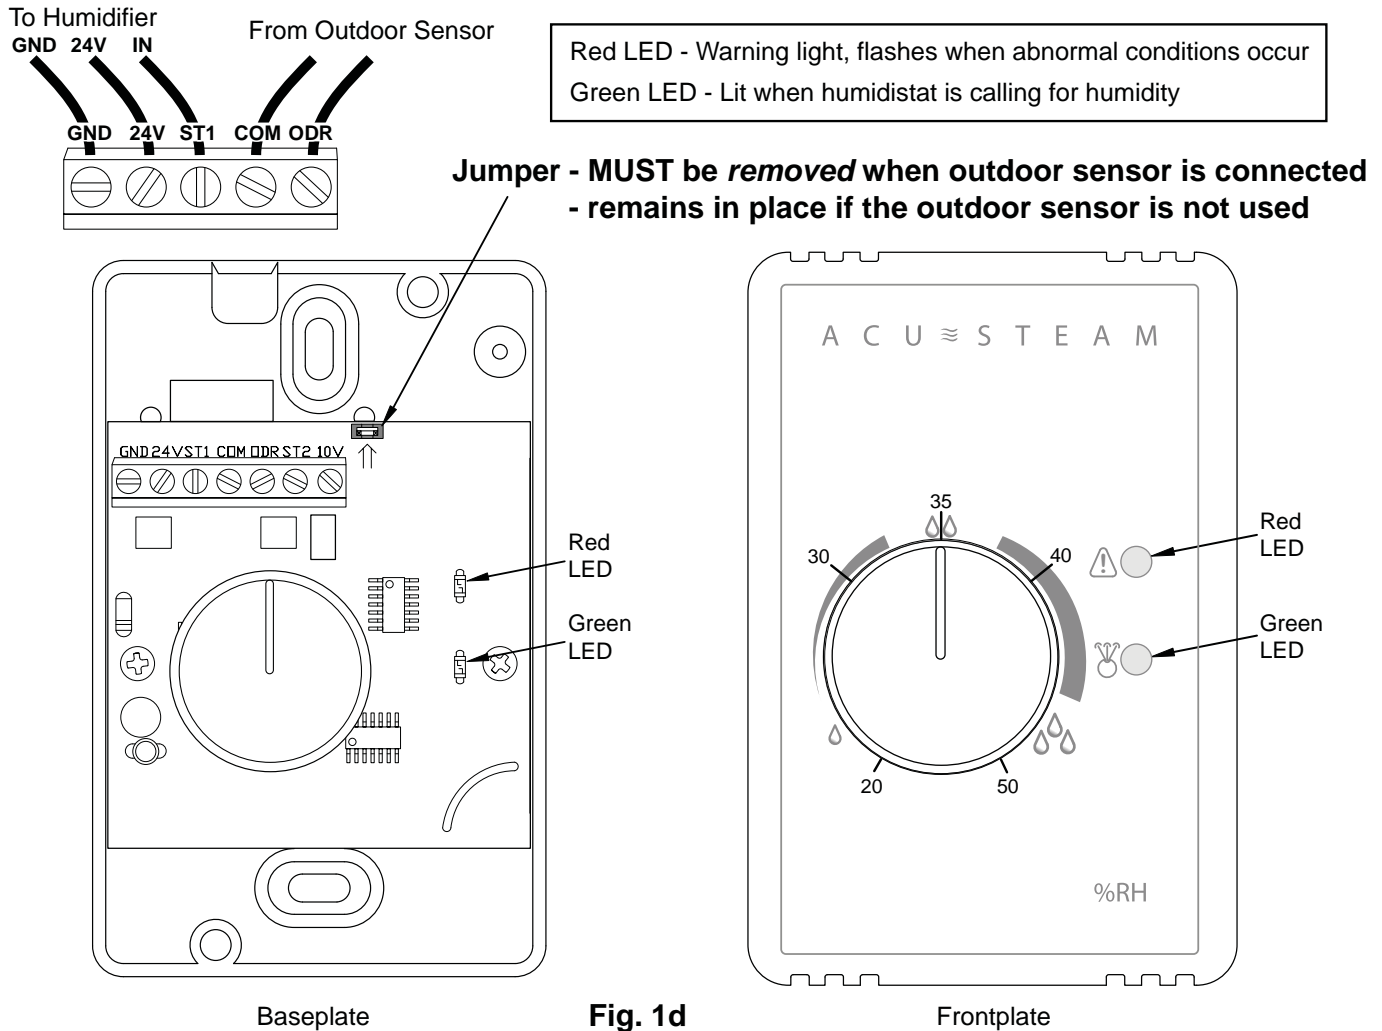

Fig. 1d
1.4 A two wire control cable is required to connect the outdoor sensor to the terminals marked **COM & ODR** on the electronic humidistat. Please see Fig. 1d. The outdoor sensor is not polarized so there is no wiring polarity to follow.